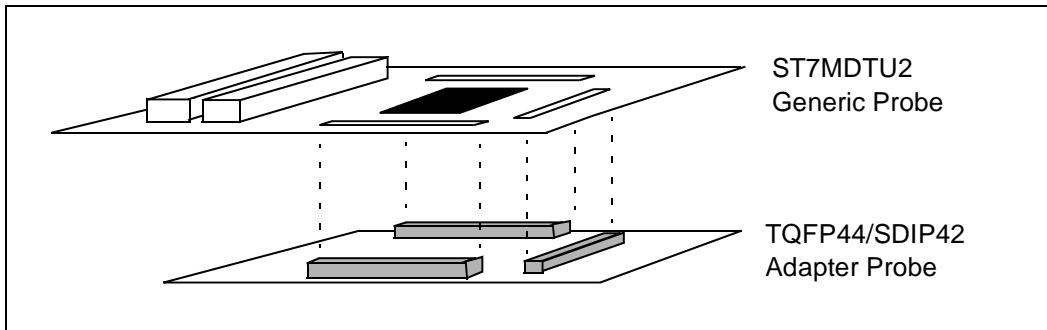

Figure 8: Connecting the TQFP44/SDIP42 adapter probe to the ST7MDTU2 generic probe
- 3 Connect the TQFP44/SDIP42 Adapter Probe (ref.: DB444) to the ST7 generic probe (ref.: DB401) (see *Figure 8* for a close-up view of this step).
- 2 Connect the TQFP44/SDIP42 adapter probe to the ST7MDTU2 Generic Probe (ref.: DB401) (refer to *Figure 8* for a close-up view of this step).